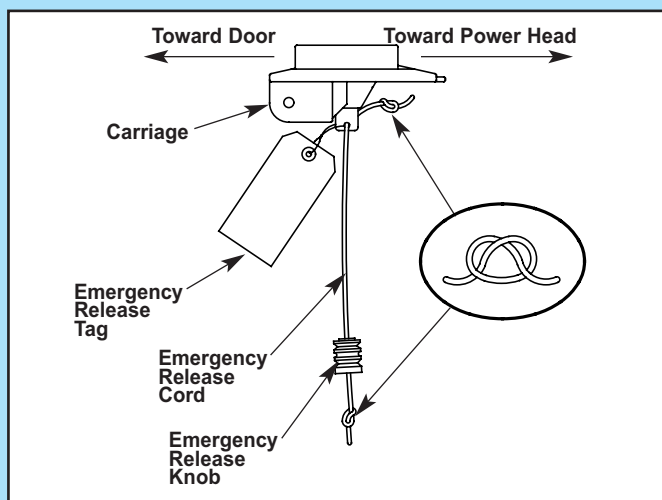

Fig. 1-1
1. **Attach emergency release knob cord (Fig. 1-1).**
2. **Attach emergency release tag (Fig. 1-1).**